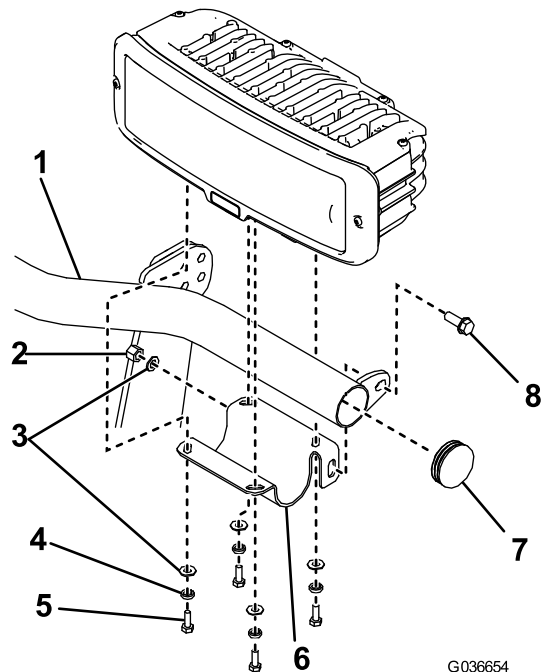

Figure 11
2. Ensure that the end caps are installed on the ends of the light bar (Figure 11).
3. Secure the left headlight-bracket to the light bar using a flange-head bolt (3/8 x 1 inch), a flat washer, and a nylon locknut (Figure 11).
- Secure the left headlight to the headlight bracket using 4 bolts (1/4 x 3/4 inch), split lock washers, and flat washers (Figure 11).